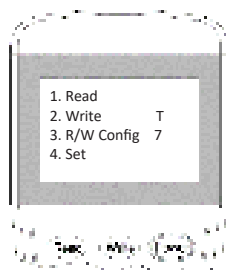

Figure 5
2. Switch-on the programmer, then press button **“Write”** or number **“2”** to enter Write Address mode (Figure 5).